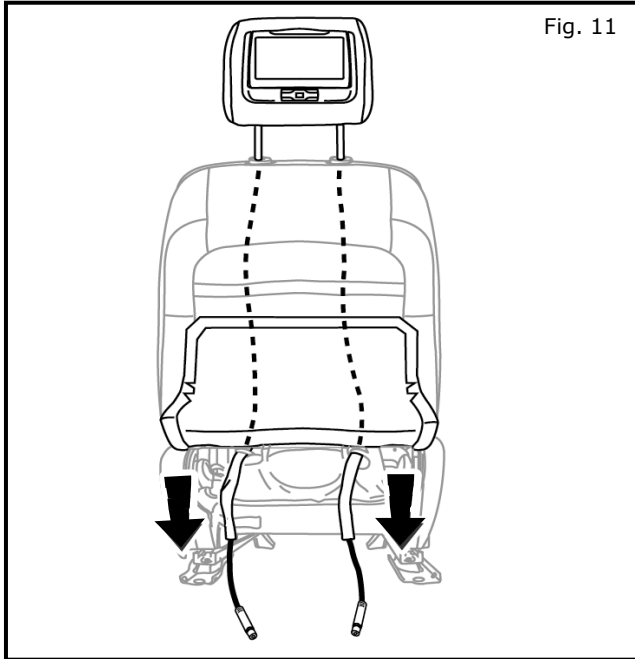

Fig. 11
- 19) Tap Vehicle wire. Figure 11
- 16.4) Insert **Driver** DVD headrest posts into seat post guides. Lock DVD headrest into its highest position (Bottom-Most Notch). Figure 11
- 16.5) Pull on two headrest cables from seat bottom to remove all slack. Figure 11